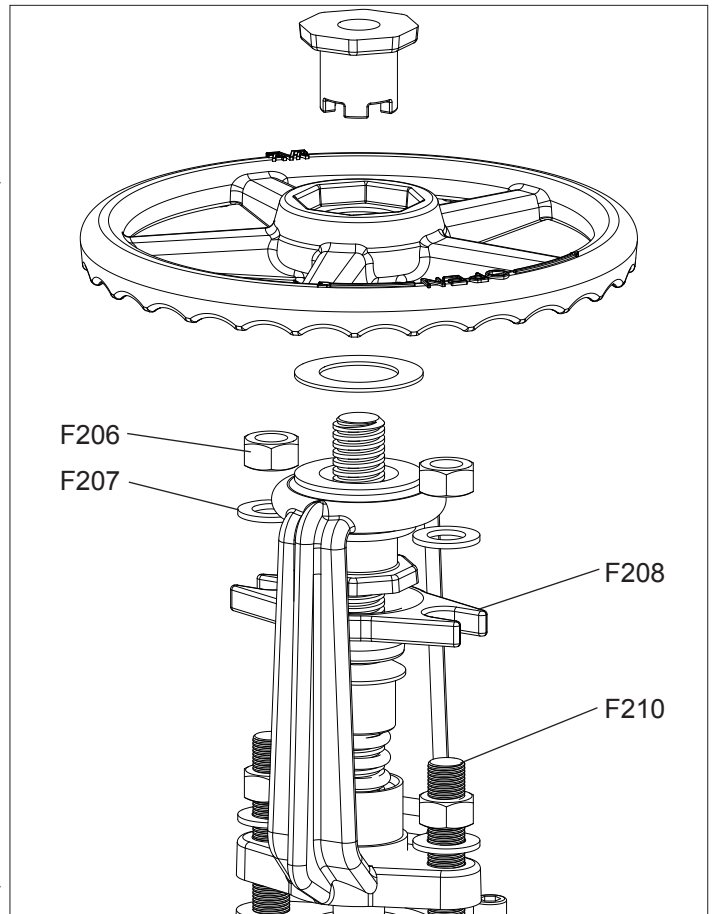

Fig. 7A
### STEM SEAL O-RING REPLACEMENT (Figs.7A,7B)
1. Remove the two upper Gland Follower / Yoke Nuts (F206) and associated Washers (F207). Lift the Gland Follower (F208) up off of the Stud Bolts (F210). (See Fig. 7A)